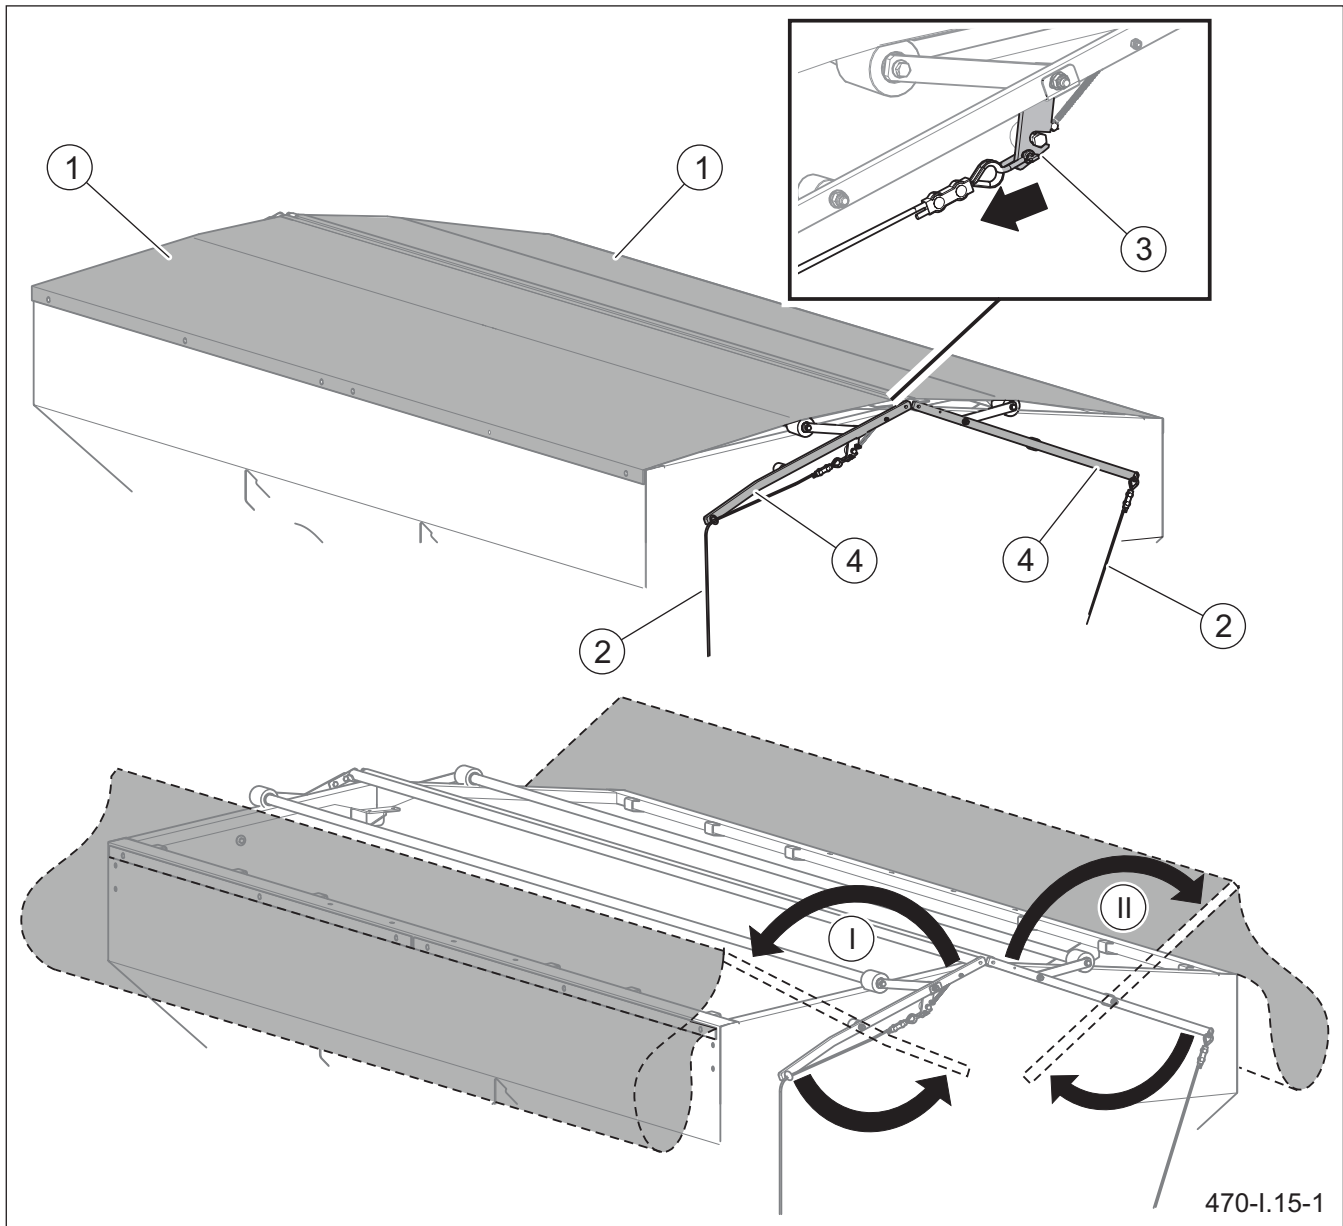

Figure 5.15 Raise the tank tarpaulin cover
- hold the ladder (1) and remove securing cotter pin (3),
- lower the ladder (1).
Release pawl (3) by pulling a cord (2) (Figure 5.15) and raise tarpaulin cover by means of frame lever. Tarpaulin cover rising sequence (I) - (II) is shown in (Figure 5.15). Before loading, check that there are no foreign objects (tools, stones etc.) in the tank. The tank should be loaded from above through the sieve that prevents lumps of material from entering the tank. When loading the tank, it is recommended to use a front loader or belt
with tarpaulin (Figure 5.15) and make sure that the pawl (3) is locked.